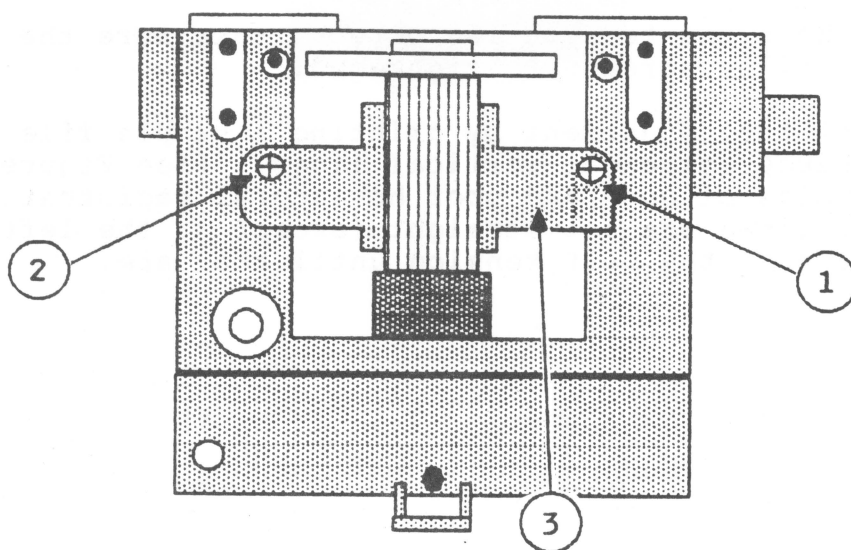

Figure 6
2. Loosen but do not remove the adjustment screw on the right (Figure 6, #1).
3. Loosen the left-hand screw (Figure 6, #2) just enough to allow movement of the print head positioning plate (Figure 6, #3). (It pivots at the left side and moves at the right.)